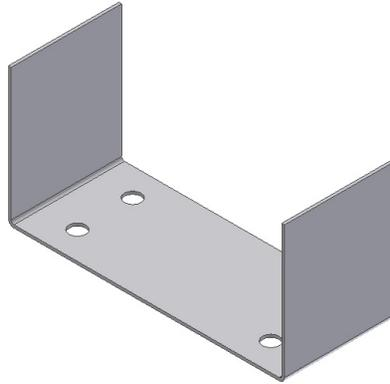

Figure 15-111 Model after creating flanges
6. Choose the **OK** button from the **Flange** dialog box to create the flange and exit the dialog box. Change the current view to the isometric view. The sheet metal component after creating flanges is shown in Figure 15-111.